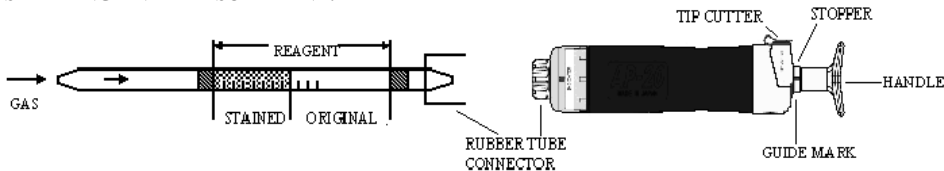

Fig.1
- ① Break both ends of the detector tube.
- ② Insert the detector tube into aspirating pump securely as shown in Fig.1. (Arrow mark shall point to the pump.)
- ③ Align the guide marks on the shaft and stopper of the aspirating pump.
- ④ Pull the pump handle at a full stroke until it locks and wait for 1 minute or until the completion of sampling is confirmed with the flow indicator of the pump (See descriptions about the flow indicator in the instruction manual of the pump).
- ⑤ Push the handle without removing the detector tube from the rubber tube connector, and air in the pump will be discharged perfectly. Then repeat the step ④ three times.
- ⑥ On completion of sampling, read the scale at the maximum point of the stained layer.
- ⑦ When the concentrations are below the scale range, 8 pump strokes can be used to determine these lower concentrations.
- ⑧ When the concentrations are over the scale range, 2 pump strokes can be used to determine these higher concentrations.